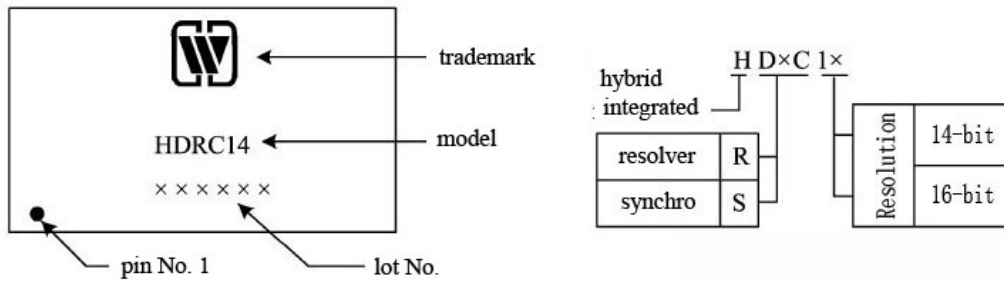

Fig. 7 Part numbering key
11. Package specifications (unit: mm) (Fig. 7, Table 5)
12. Part number key (Fig. 7)